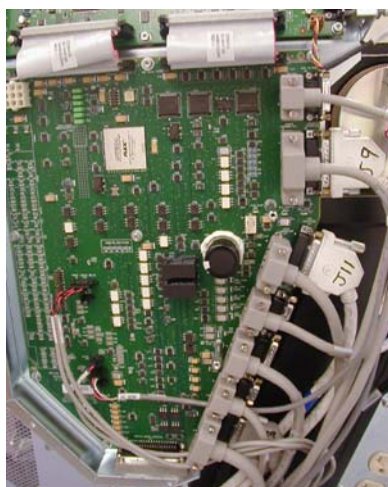

Figure 2-6 Gantry MSUB
- 1.) Locate the gantry MSUB. See Figure 2-6.